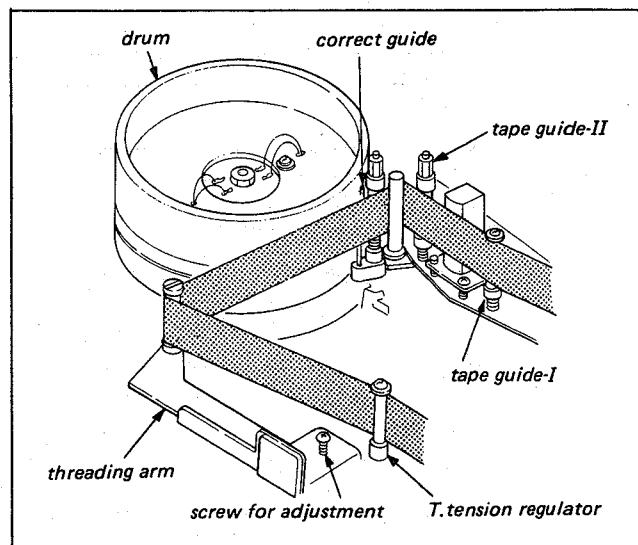
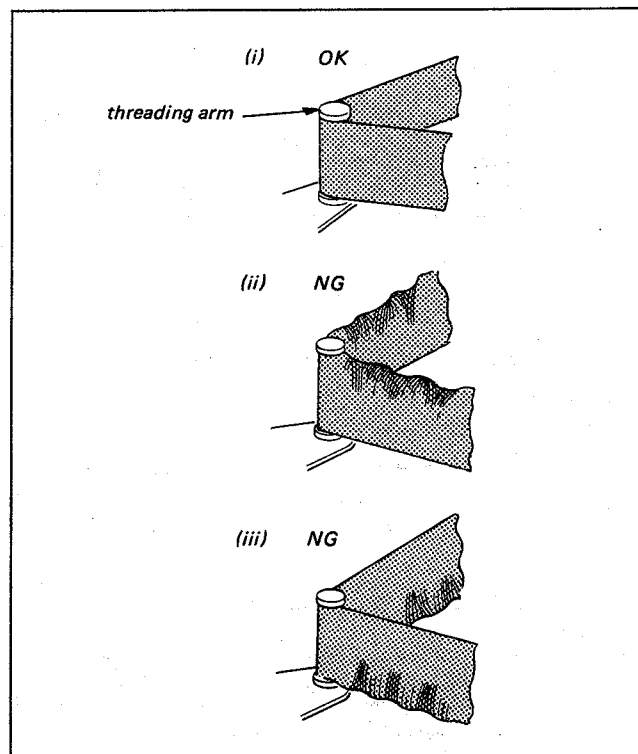

Fig. 6-8. F.FWD tape run adjustment
Fig. 6-9. F.FWD tape run adj.
2. Observe the surface of the running tape very carefully at each point of the Threading Arm, the Drum and the Take-up Tension Regulator, as shown in Fig. 6-8. Check to see that amount of tape tension at the two points is exactly equal i.e. equal at the tape top and tape bottom. See Fig. 6-9. If not, adjust the Screw for Adjustment at the Threading Arm shown in Fig. 6-8.